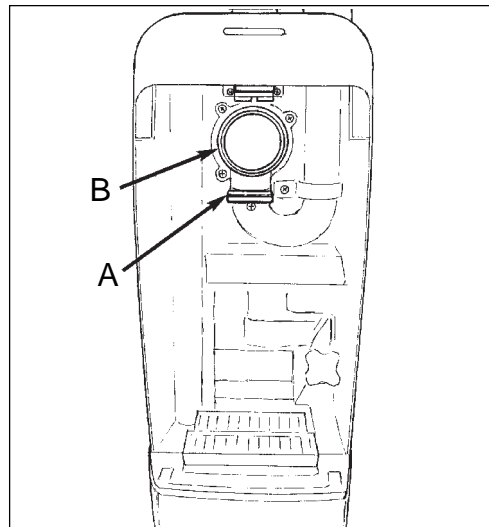

Figure 18
- c. Place the bottom of the cardboard inlet into the slot under the bag adaptor (see figure 18, item A)
- d. Put the opening of the cardboard inlet over the bag adaptor (see figure 18, item B).